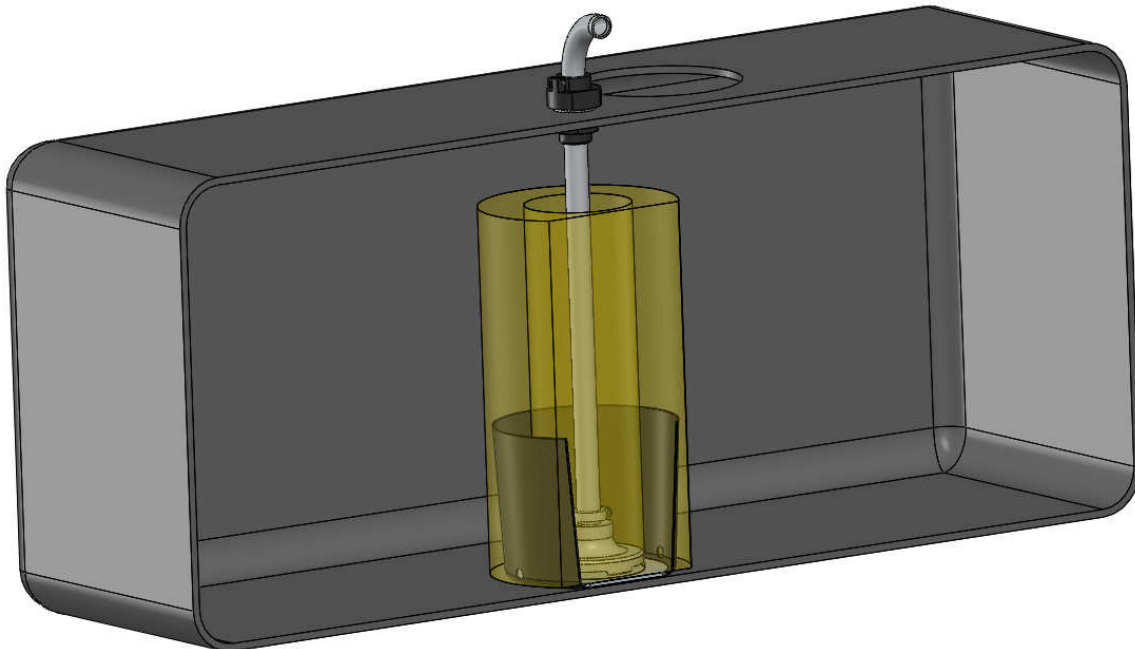

FIGURE 1-9
11. Push the pickup tube assembly down into the baffle until the filter rest on the bottom plate. Position the outlet toward the middle of the vehicle and tighten the tube clamp on top of tank. **FIGURE 1-9**